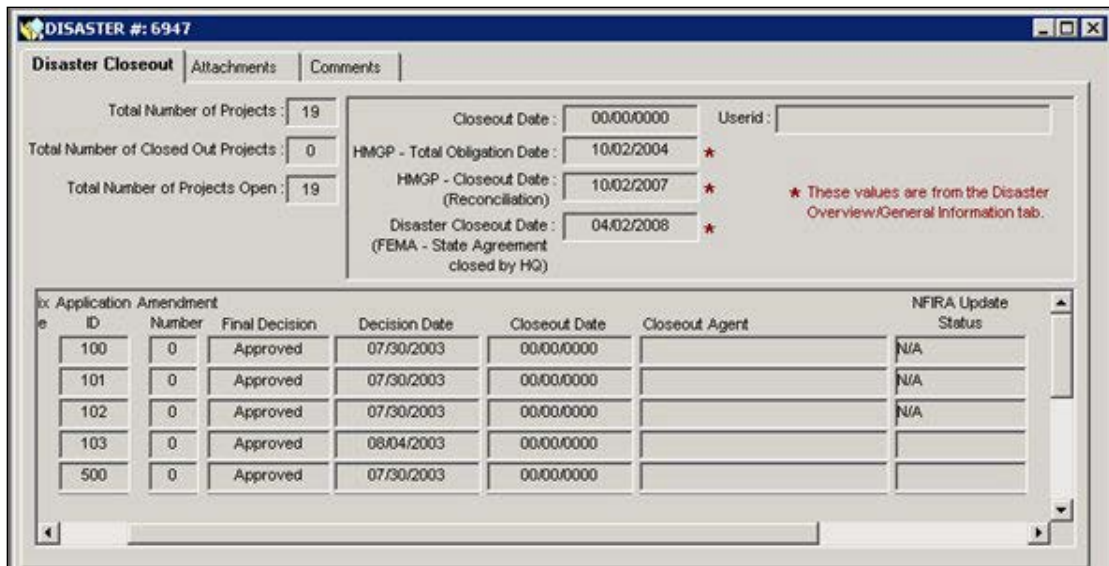

Figure 13-8: Mitigation >Disaster >Closeout >Disaster Closeout Tab - Project Information
- Scroll to the right to see the rest of the data fields (Figure 13-8).